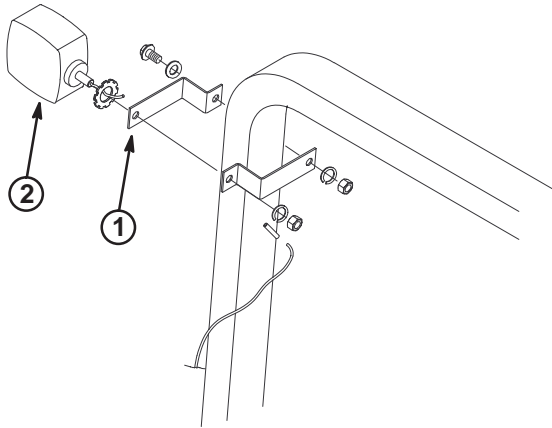

Figure 17
1. Mount a flashing light to each ROPS post with (2) mounting brackets and fasteners, as shown in figure 17.